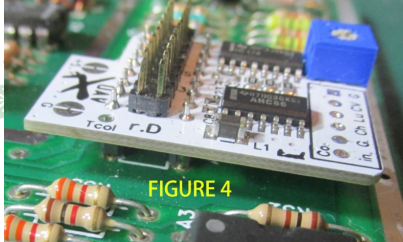

FIGURE 4
- b. Otherwise, solder the UAV directly into the board as shown in Fig. 4.